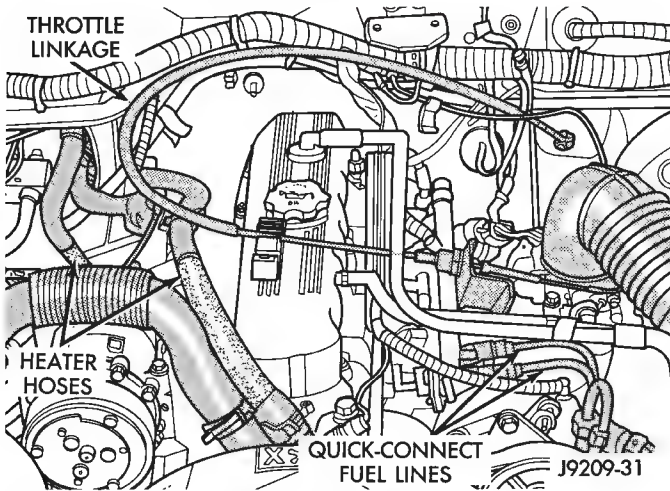
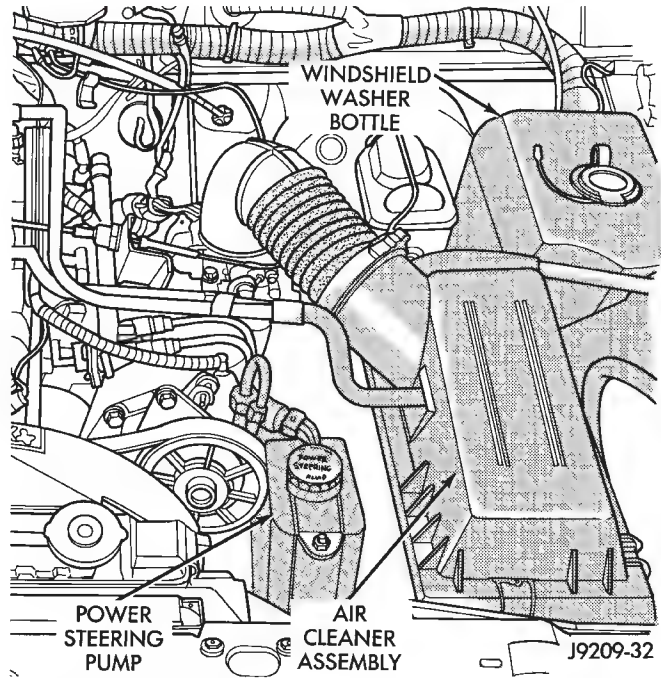

Fig. 16 Heater Hoses (LH Drive Vehicles), Throttle Linkage & Quick-Connect Fuel Lines
Fig. 18 Air Cleaner and Power Steering Pump
(7) Disconnect the transmission fluid cooler tubing (automatic transmission).
(8) Remove the radiator/condenser (if equipped with air conditioning).
(9) Remove fan assembly and install a 5/16 x 1/2-inch SAE capscrew through fan pulley into water pump flange. This will maintain the pulley and water pump in alignment when crankshaft is rotated.
(10) Disconnect the heater hoses (Figs. 16 and 17).
(11) Disconnect the throttle linkages (Fig. 16), speed control cable (if equipped) and throttle valve rod.
(12) Disconnect the oxygen sensor wire connector.
(13) Disconnect the wires from the starter motor solenoid.
(14) Disconnect all fuel injection harness connections.
(15) Disconnect the quick-connect fuel lines at the fuel rail and return line by squeezing the two retaining tabs against the fuel tube (Fig. 16). Pull the fuel tube and retainer from the quick-connect fitting (refer to Group 14, Fuel System for the proper procedure).
(16) Remove the fuel line bracket from the intake manifold.
(17) Remove the air cleaner assembly (Fig. 18).
(18) If equipped with air conditioning, remove the service valves and cap the compressor ports.
(19) Remove the power brake vacuum check valve from the booster, if equipped.
(20) If equipped with power steering (Fig. 18):